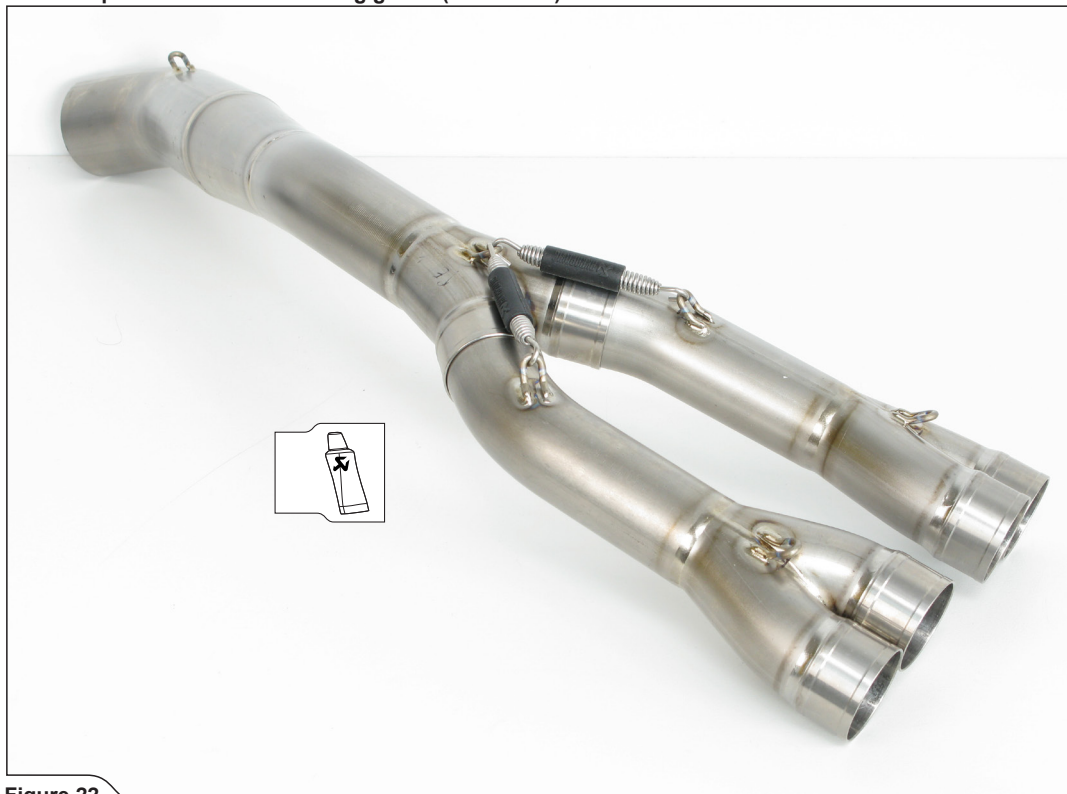

Figure 22
6. Assemble the collectors with link pipe as shown and attach the springs (Figure 22).